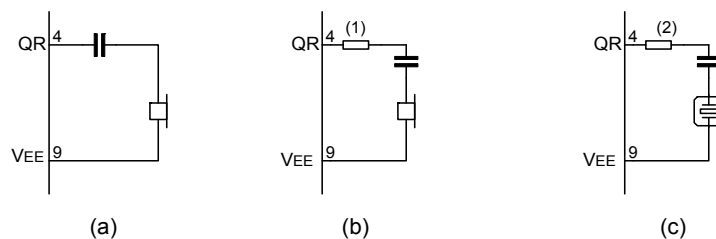

Fig.11 Alternative receiver arrangement
The receiving amplifier has one input (IR) and a non-inverting output (QR). Earpiece arrangements are illustrated in Fig.11. The IR to QR gain is typically 31dB (when  $R_4=100k\Omega$ ). It can be adjusted between 20 and 31dB to match the sensitivity of the transducer in use. The gain is set with the value of  $R_4$  which is connected between GAR and QR. The overall receive gain, between LN and QR, is calculated by subtracting the anti-sidetone network attenuation (32dB) from the amplifier gain. Two external capacitors,  $C_4$  and  $C_7$ , ensure stability.  $C_4$  is normally 100pF and  $C_7$  is 10 times the value of  $C_4$ . The value of  $C_4$  may be increased to obtain a first-order low-pass filter. The cut-off frequency will depend on the time constant  $R_4 \times C_4$ . The output voltage of the receiving amplifier is specified for continuous-wave drive. The maximum output voltage will be higher under speech conditions where the peak to RMS ratio is higher.